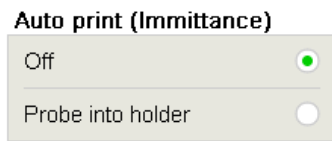

Figure 110
**Automatic printout (Immittance):** An automatic printout is directly generated upon the return of the probe into the probe holder when **Probe into holder** is selected (Figure 110).